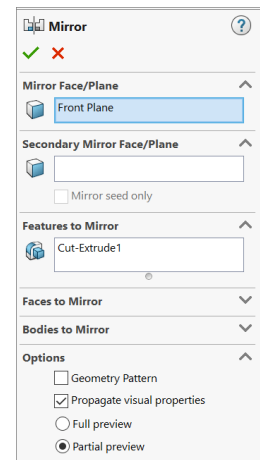

Fig. 28
Step 3. In the Mirror Property Manager click **OK** , **Fig. 28**.